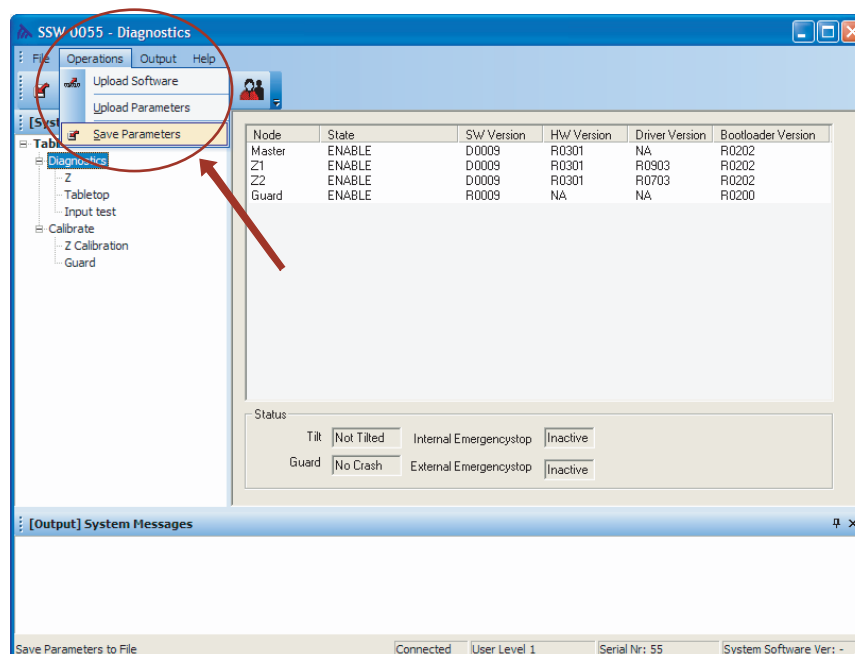

Fig. 5-164
2. Press *Operations* in menu and select *Save Parameters*, see Fig. 5-164 .